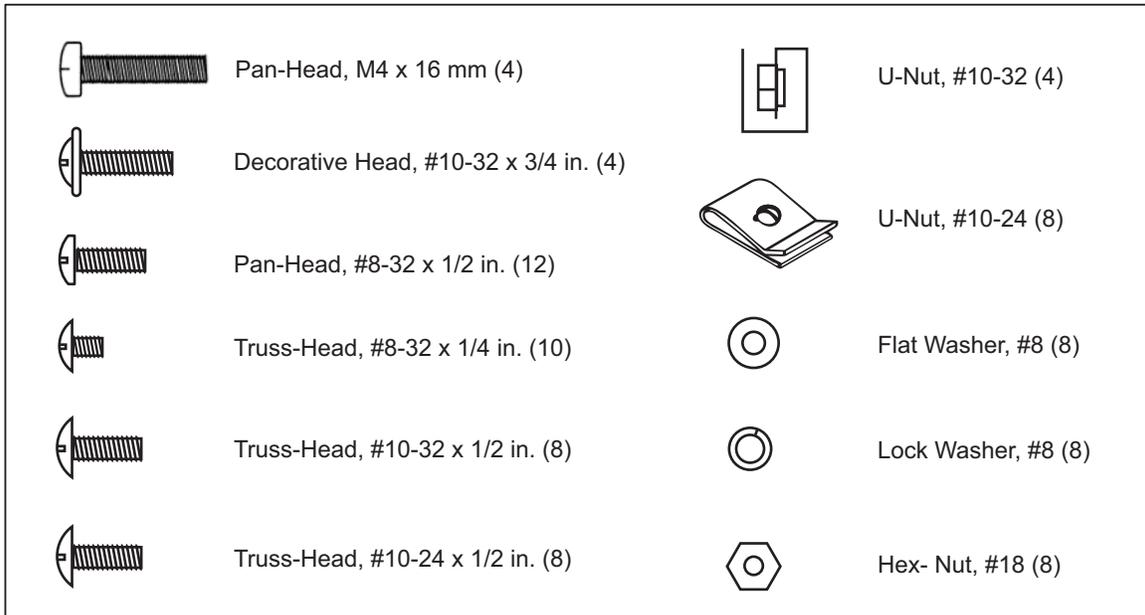

Figure 2. Screw Identification
- c. Use two M4 x 16mm or two 8-32 x ½ inch pan-head screws to attach each ear to the Product. See Figure 2 for screw identification.